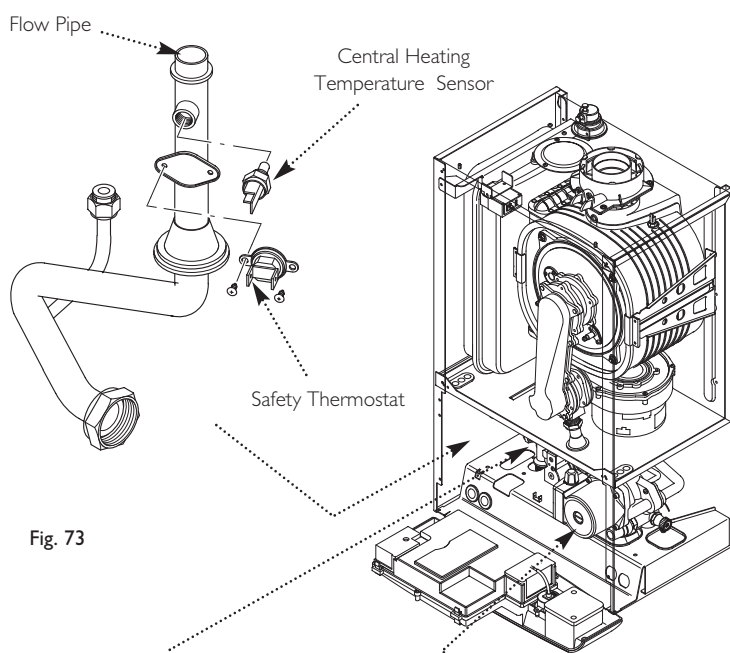

Fig. 73
14.10 Central Heating Temperature Sensor (NTC) (Fig. 73)
14.11 Safety Thermostat (Fig. 73)